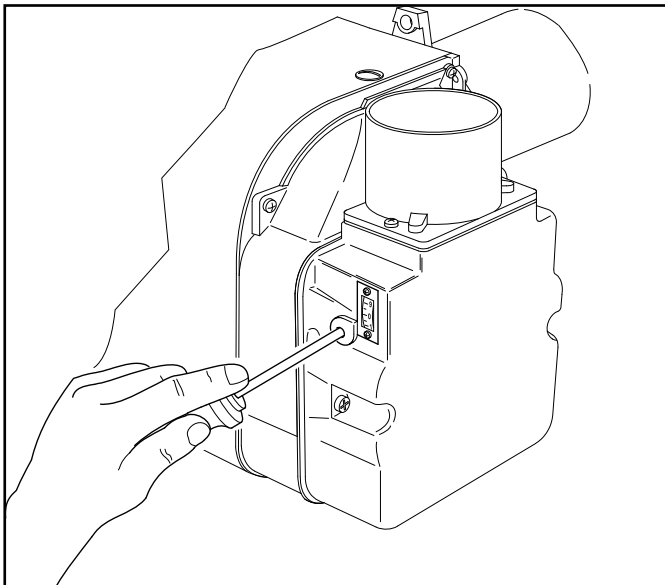

Figure 16-2: Air damper adjustment
Use a 3 mm Allen key to adjust the air damper. Refer to Figure 16-2.
3. Use the hexagonal key supplied to adjust the burner air damper (refer to Figure 16-2) as required. Turning the screw anti-clockwise closes the damper and increases CO₂ level, turning the screw clockwise opens the damper and reduces CO₂ level.